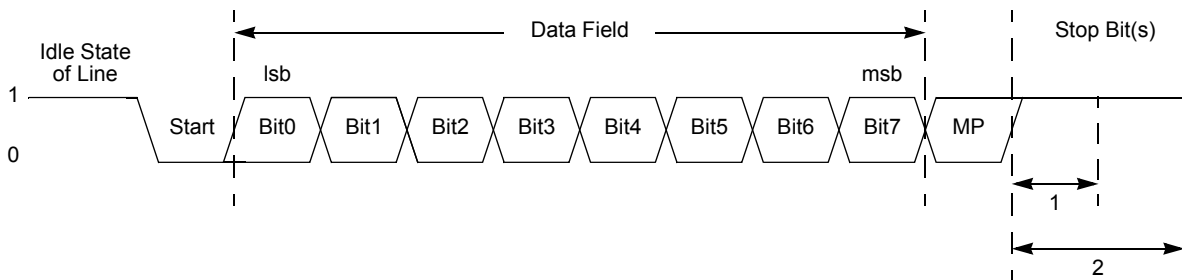

Figure 13. UART Asynchronous MULTIPROCESSOR Mode Data Format
The UART has a MULTIPROCESSOR (9-bit) mode that uses an extra (9th) bit for selective communication when a number of processors share a common UART bus. In MULTIPROCESSOR mode (also referred to as 9-bit mode), the multiprocessor bit (MP) is transmitted immediately following the 8-bits of data and immediately preceding the Stop bit(s) as displayed in Figure 13. The character format is given below: